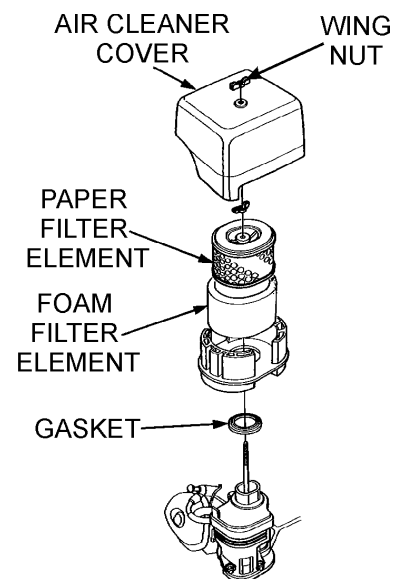

Figure 24. Engine Air Cleaner
- Remove the air cleaner cover and foam filter element as shown in Figure 24.
- Tap the paper filter element (Figure 24) several times on a hard surface to remove dirt, or blow compressed air [not exceeding 30 psi (207 kPa, 2.1 kgf/cm²)] through the filter element from the air cleaner case side. **NEVER** brush off dirt. Brushing will force dirt into the fibers. Replace the paper filter element if it is excessively dirty.